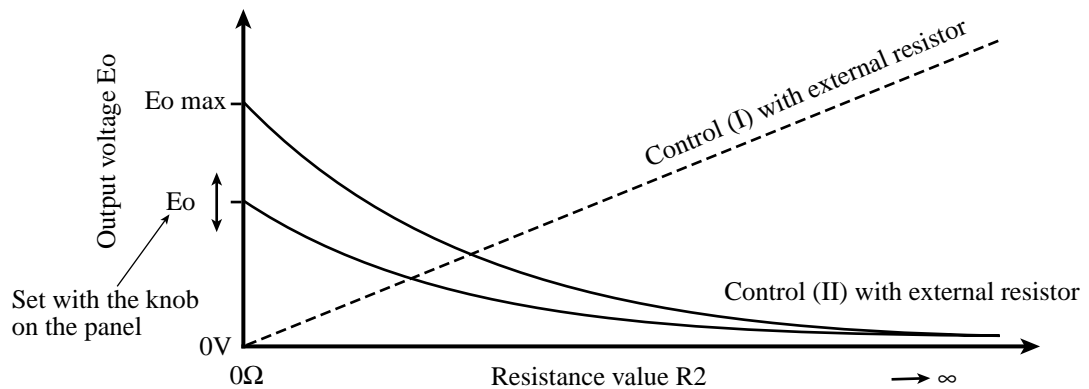

Fig. 4-4 Control (I) and control (II) with external resistor
- The output voltage  $E_o$  and resistance value  $R_2$  are inversely proportional, as shown in Fig. 4-4. If the circuit opens when switching the resistor or due to an accident, the resistance value become  $\infty$  (infinite) and output becomes zero.